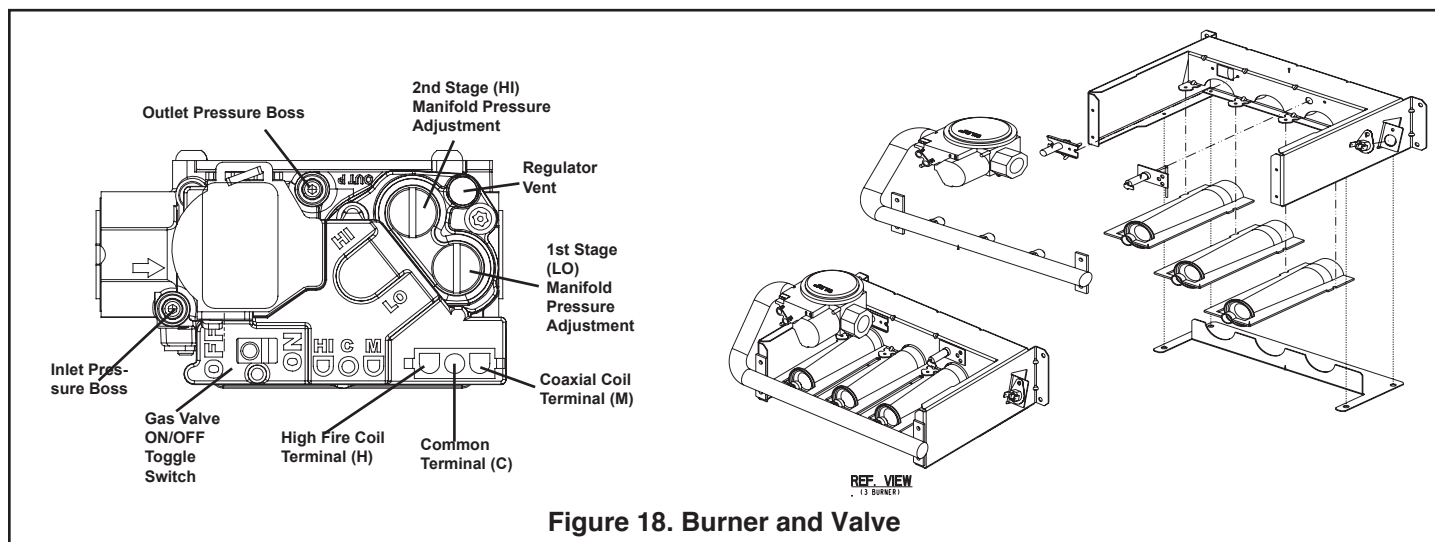

Figure 18. Burner and Valve
- Remove the slot screw on top of the gas valve for 1st stage manifold pressure adjustment. Remove slot screw on outlet side for 2nd stage adjustment (See Figure 18).